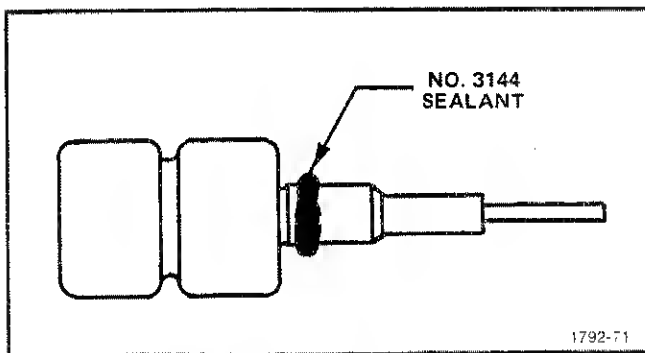

Fig. 5-18. Application of sealant to FINE control bushing.
18. Install FINE POSITION control (see Fig. 5-18 and 5-19)
1. Form a bead of No. 3144 sealant around the bushing threads as shown in Fig. 5-18.